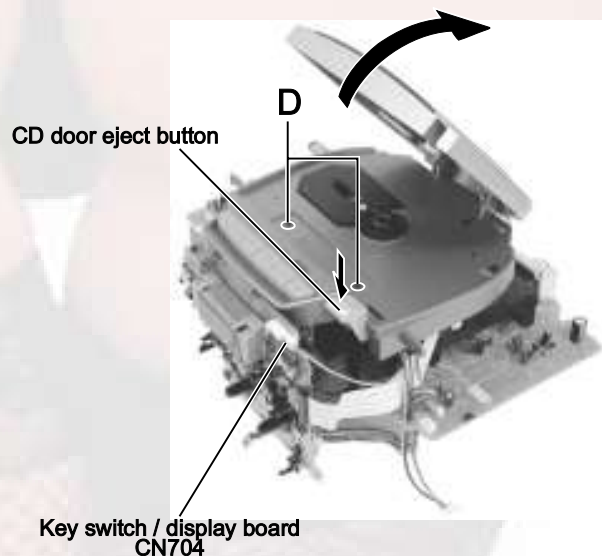

Fig.9
■Removing the CD cover and door unit (See Fig.9 and 10)